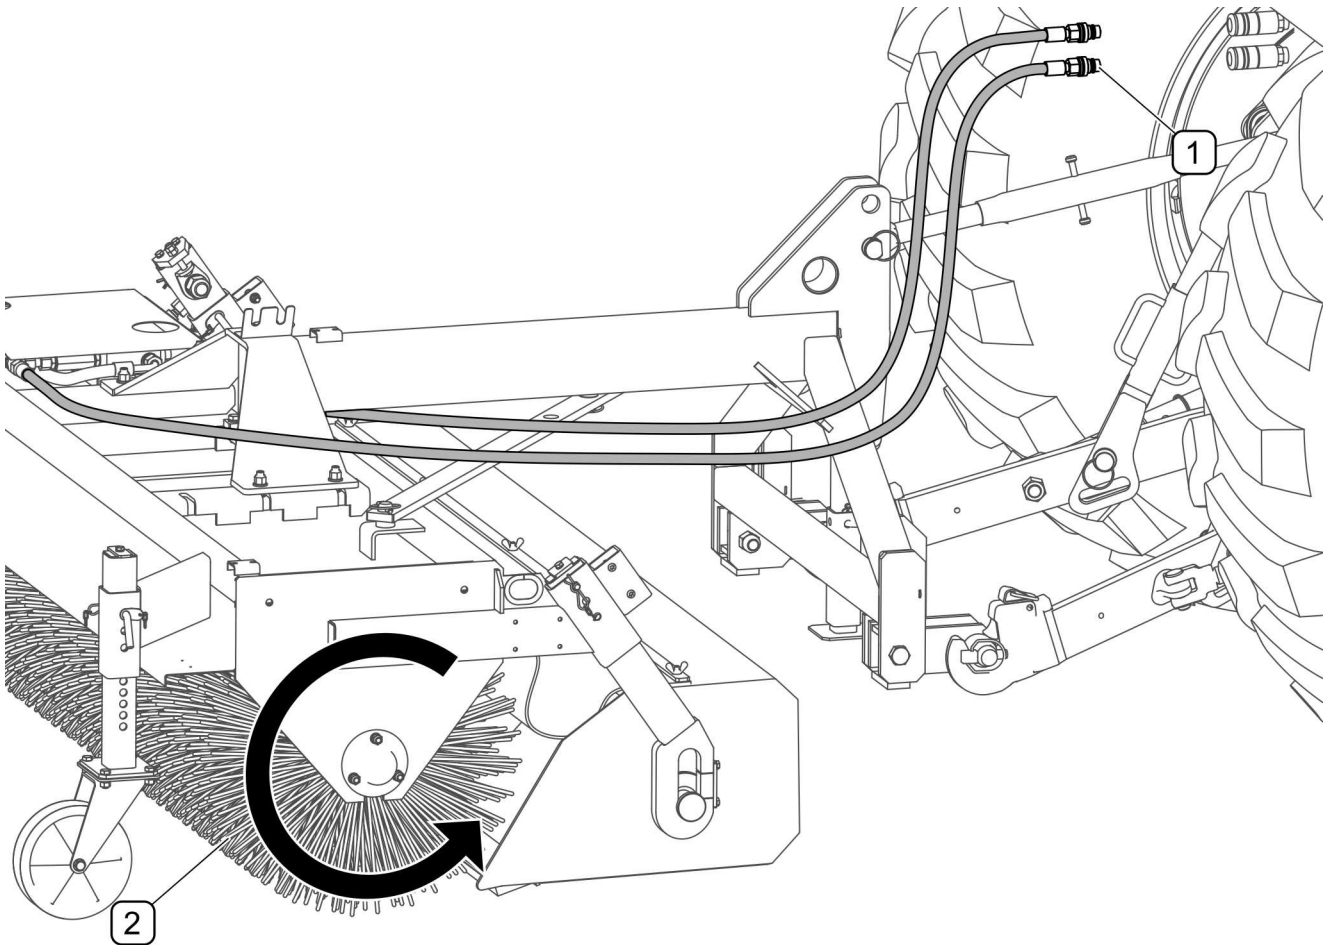

FIG. 4.2 Connecting the hydraulic system to the tractor and the sweeping roller brush direction of rotation
Connect hydraulic connectors (1) to sockets of one section of the tractor hydraulic selective control valve FIG. 4.2). Sweeping roller brush (2) begins to rotate a moment after actuating the appropriate hydraulic circuit by means of a tractor hydraulic selective control valve lever. If the sweeping roller brush (2) rotates in the wrong direction or does not rotate at all, swap the hydraulic connectors (1).